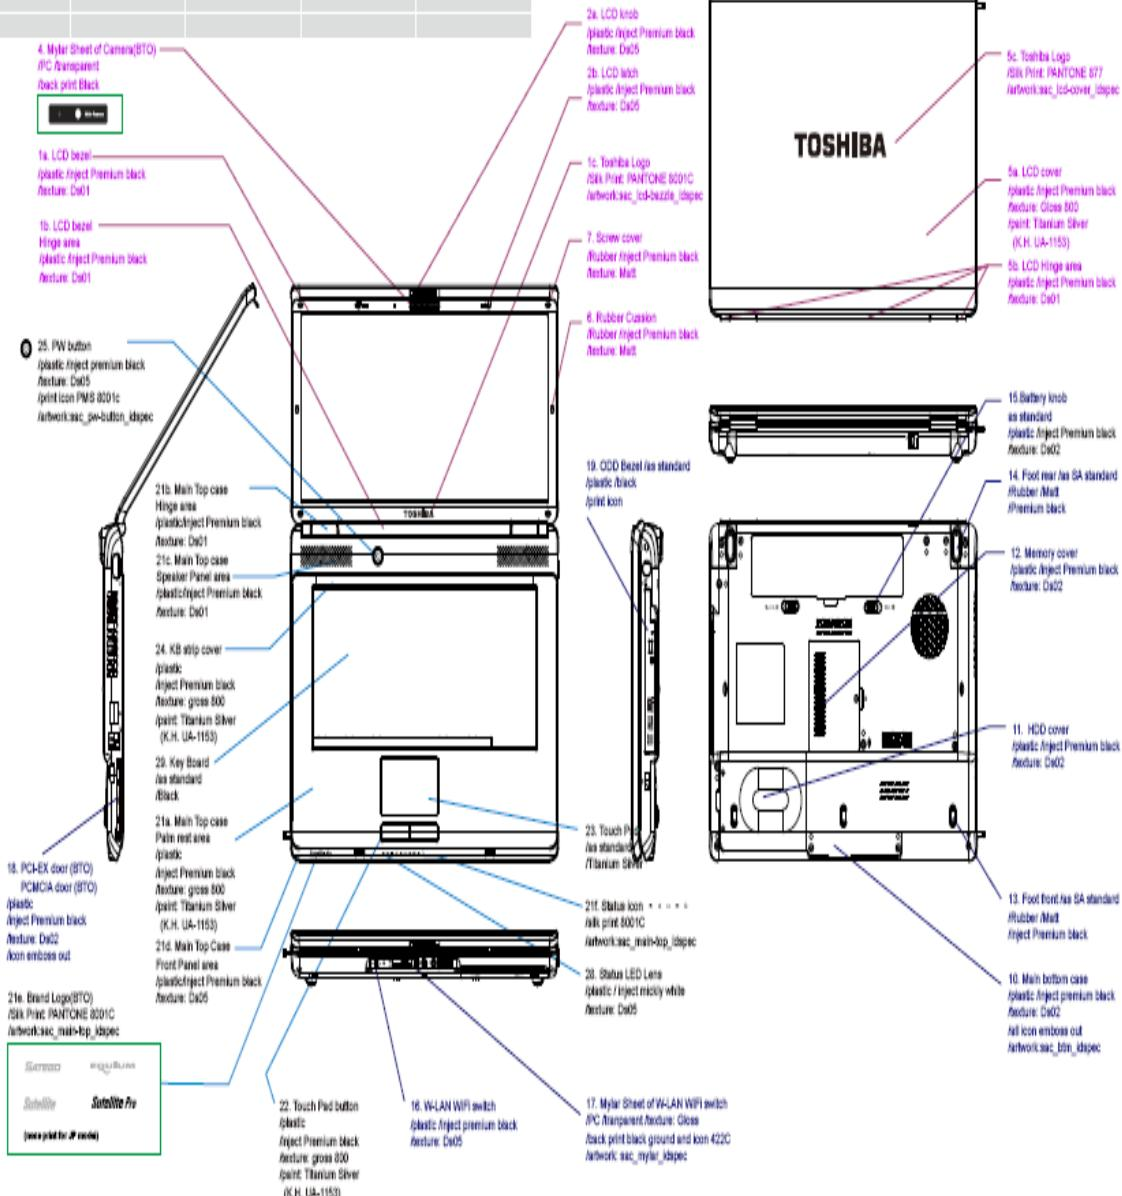

Figure 1-1 ID Parts Description Placement
- ❑ Figures 1-1/1-2/1-3 and 1-4 show the computer and its system unit configuration, respectively.